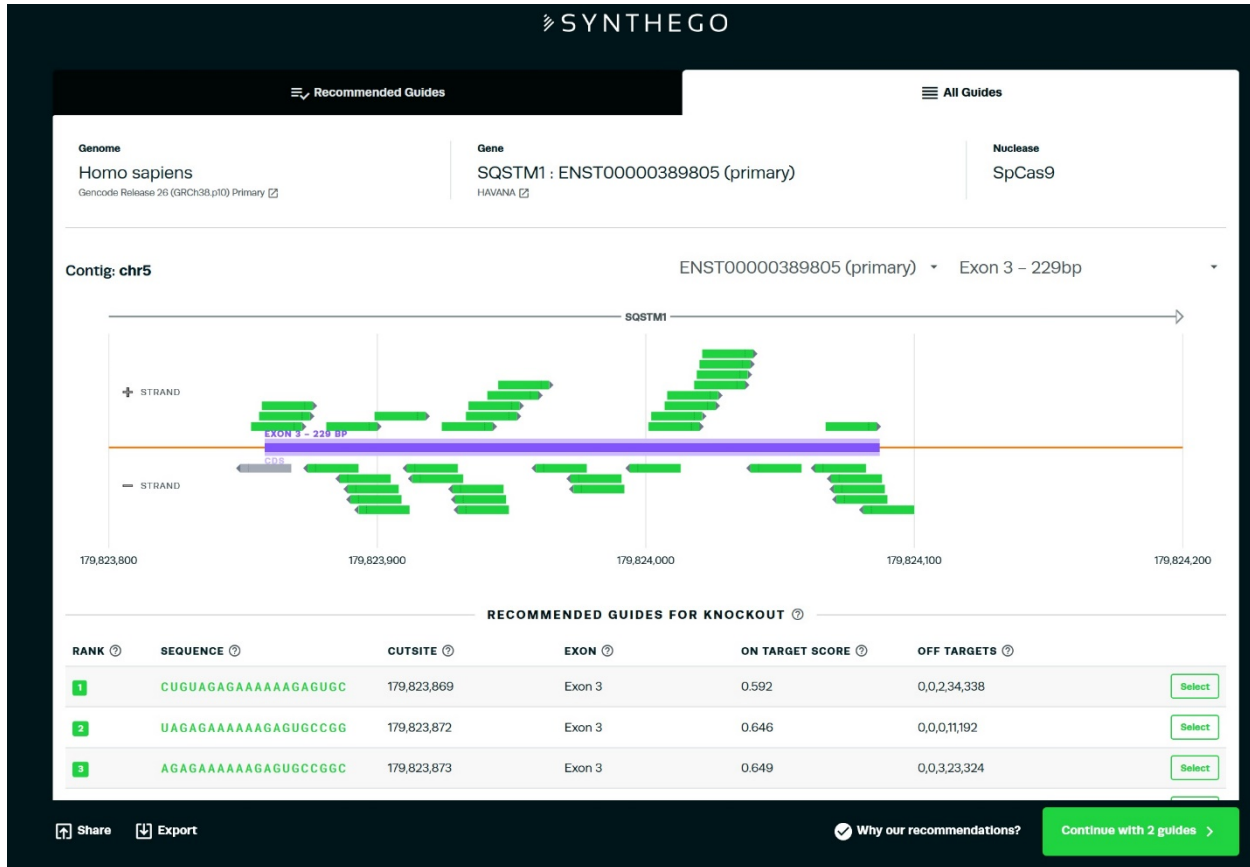

Figure 2: gRNAs designed at Synthego website are shown as green (recommended guides) and grey (other guides) arrows.
- “Recommended guides” will be shown in green (as in **Figure 2**). To visualize all the gRNAs available, click on “all guides” tab.
- Copy transcript ID (see example in **Figure 2**).